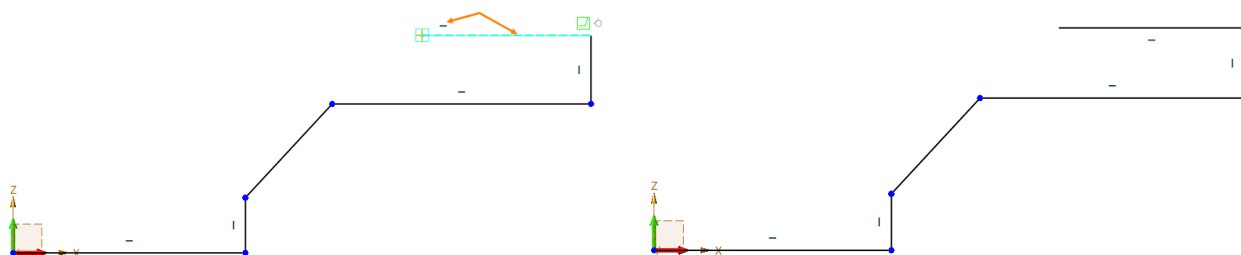

Figure 82 Drawing a Continuous Line
STEP 02 Use the **Draw** command to draw a continuous line as shown in Figure 82. Make sure **Smart Pick** is enabled.